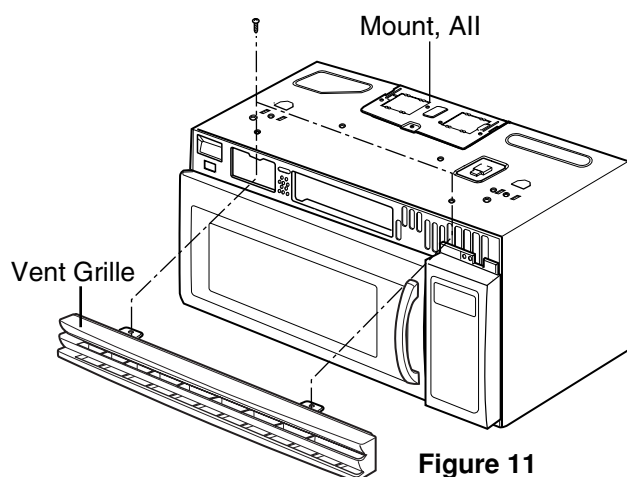

Figure 11
(Figures 11 Through 12)
- (1) Remove the vent grille by loosening two screws. (Figure 11)
- (2) Remove the outcase. See page 7-6.
- (3) Remove the controller ASS'Y.
- (4) Disconnect the leadwire.
- (5) Remove a screw securing the magnetron guide the the magnetron.
- (6) Remove four tap tite screws securing the magnetron to the wave guide.
- (7) Disconnect the leadwire.
- (8) Remove the magnetron VERY CAREFULLY.